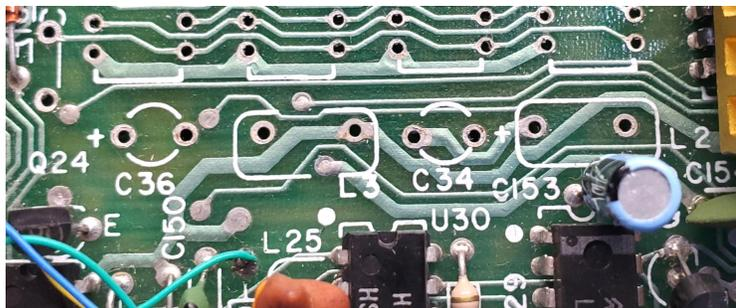

Figure 1
- Inductors: L2 and L3 (See **Figure 1**.)
- Electrolytic Capacitors: C36 and C34 (See **Figure 1**.)